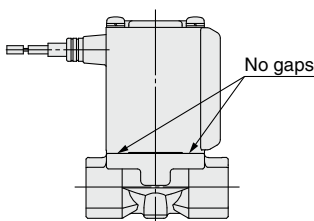
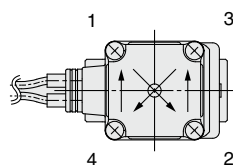

Fig.1
Fig.2
- Push the coil assembly against the body and tighten the screws two or more rounds diagonally (Fig. 2) in the status that there are no gaps between the coil assembly and body (Fig. 1). Tighten the screws in the order of "1→2→3→4→1→2→3→4".
* After tightening the screws, make sure that there are no gaps between the coil and body (Fig. 1).